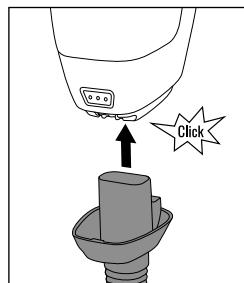

Fig. 8
- ◆ Push the suction hose adapter **24** into the motor unit **8** until it clicks into place (see fig. 8).